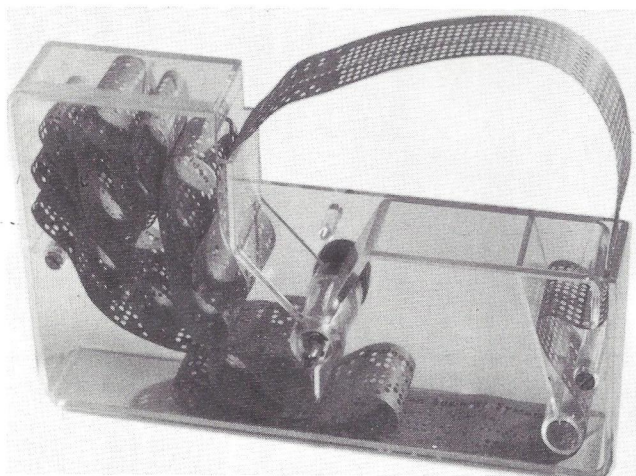

Figure 13.
5. Replace the cover and coverscrews. (See figure 13).